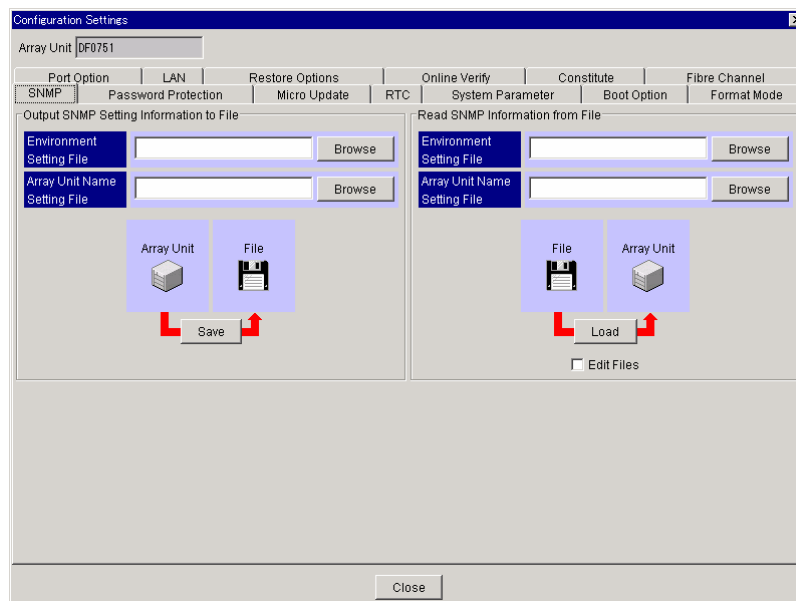

Figure 5.6 Configuration Settings Dialogue Box (SNMP Tab)
3. From the Settings menu, select **Configuration Settings**, or select the **Configuration Settings** button () from the tool bar. The **Configuration Settings** dialog box is displayed (Figure 5.6).
4. Click the **SNMP** tab (Figure 5.6).
4. Click the **SNMP** tab (refer to Figure 5.6).